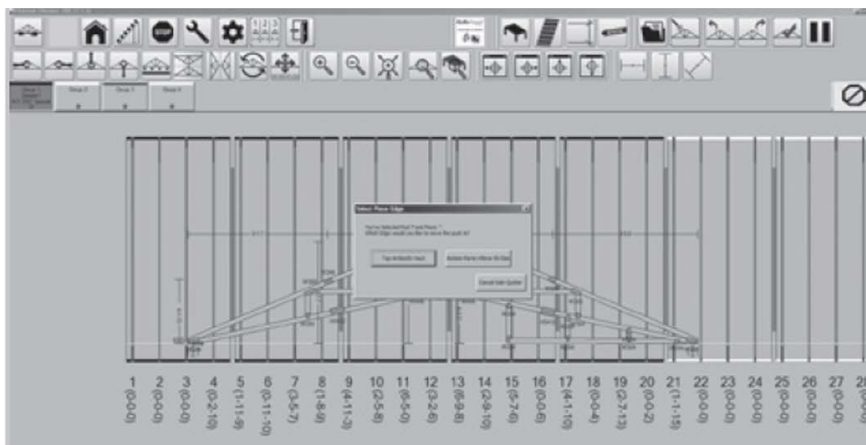

FIGURE 45
3. A pop-up box appears with two options: Top or Bottom edge (Figure 45)